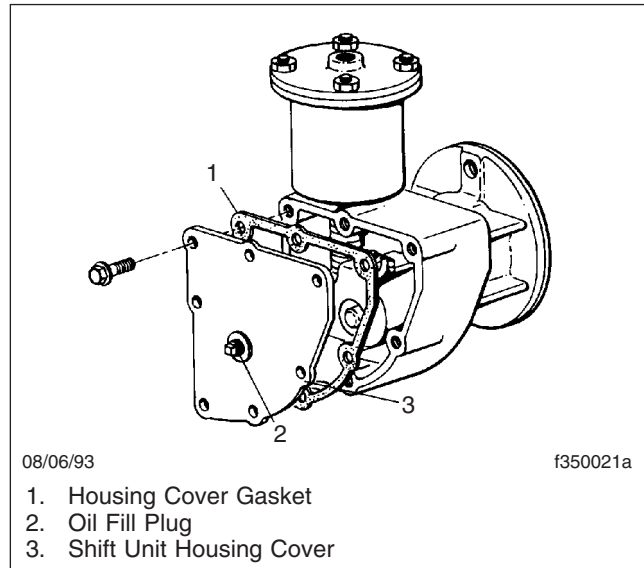

Fig. 6, Two-Speed-Axle Shift Unit
1. Remove the shift unit housing cover. See Fig. 6. Drain and discard the old lubricant. Discard the housing cover gasket.
1. Clean the shift unit oil fill plug, and the area surrounding the plug. See **Fig. 6**. Turn the fill plug counterclockwise to remove it.